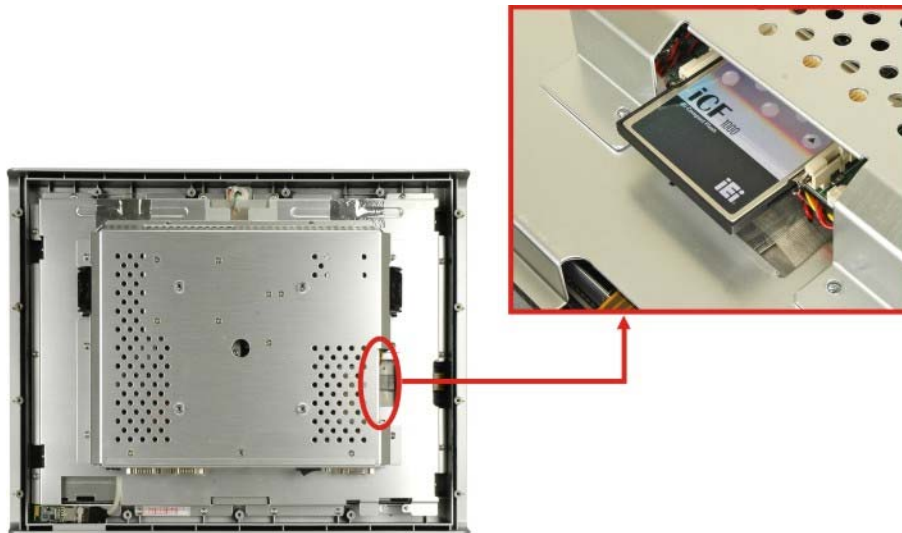

Figure 4-2: CF Card Location
Step 3: Insert a CF card into the slot (**Figure 4-2**).